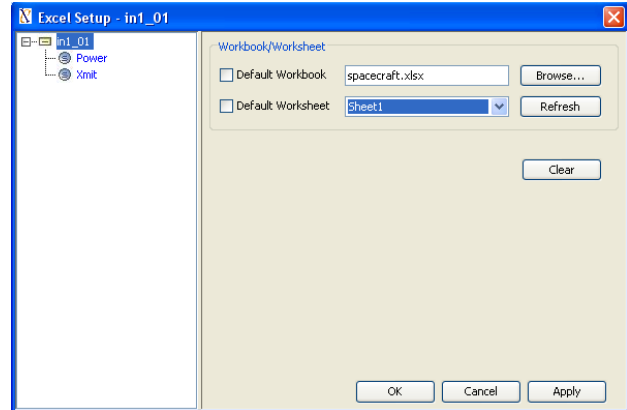

Figure 6.13b ParaMagic- Excel Set-up for instance after completion
- c. After the Workbook name is entered and the Refresh button is clicked, the available worksheets within that file will appear as a drop-down list by the Worksheet name label. Select the desired worksheet, Sheet1. See Figure 6.13b.